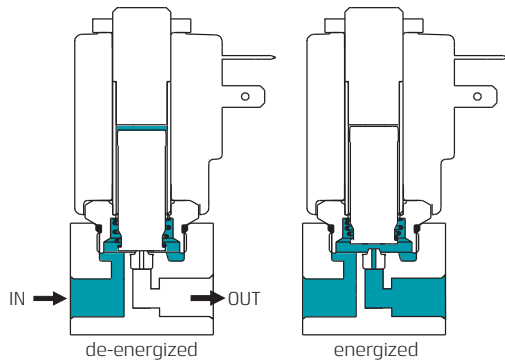

Fig. 1
- Normally Closed (NC) Fig. 1 - valve is closed for flow through the valve when the coil is de-energized.